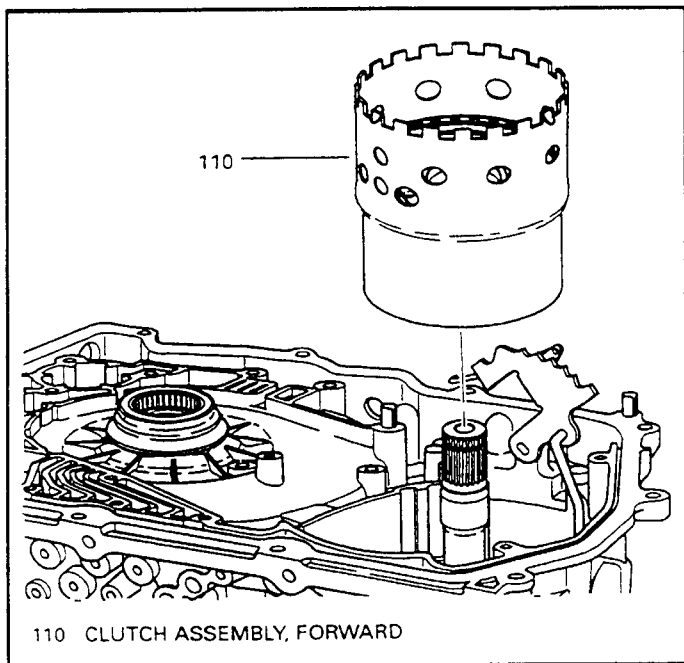

Figure 75
75. Remove the complete forward clutch housing, as shown in Figure 75.